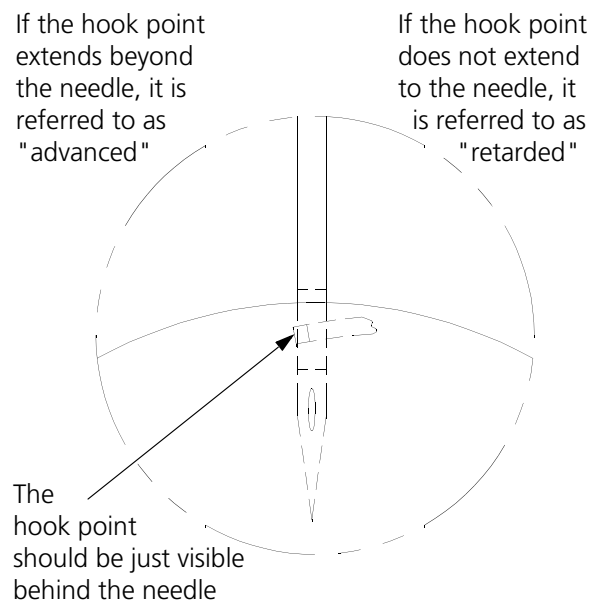
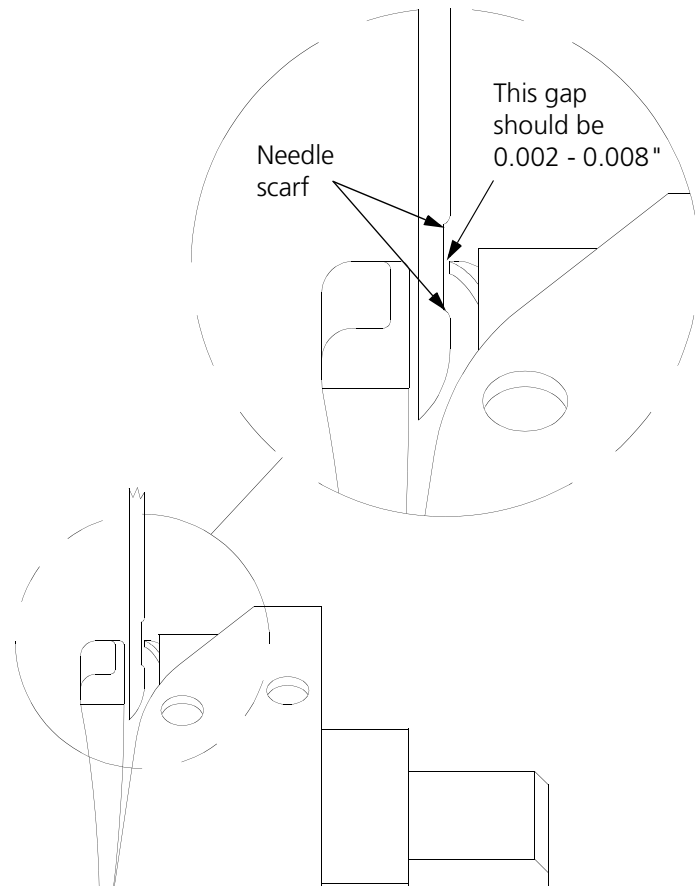

Figure 4-9
Figure 4-10
9. Check to see if hook timing is correct before you proceed. You must check the hook point's alignment with the needle, and you must check the gap. Refer to Figure 4-9 to check the alignment to the needle. Refer to Figure 4-10 to check the gap; there should be a 0.002" to 0.020" gap (about the width of a thread) between the needle and the hook point. Since there is some variation between the needles, check needles 1, 5, and 10; ideally, the smallest gap should be set at 0.003".
17. Line the hook up in the approximate HOOK TIMING position (refer to Figures 4-9 and 4-10).
20. Tighten the colored hook screw and check that the setting is correct as shown in Figures 4-9 and 4-10).